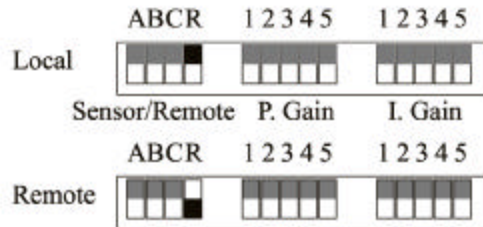

Figure 4. Sensor Selection
4.2 Connect the Temperature Sensor. Refer to Figure 3, “Sensor Wiring”. A DB-9 cable is used (wired straight through, with male/female connectors, equivalent to Amp #621808-2 or Spin One #6000.0001). We’re assuming that you’re using an LM335 temperature sensor, which provides an easy, direct temperature reading with little need for conversion. For other temperature sensors, please refer to the section “Selecting And Installing A Temperature Sensor”. Set the back panel “Sensor Selector” as shown in Figure 4; the Model 3001 is pre-set at the factory for an LM335.
- a. Connect the sensor as described in Figure 3 and make the appropriate “Sensor Selection” as shown in Figure 4.
- a. Connect the sensor as described in Figure 3 and make the appropriate "Sensor Selection" as shown in Figure 4.